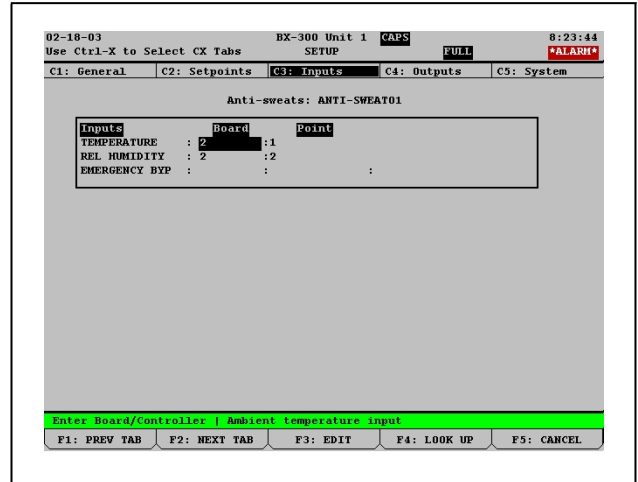

Figure 4-6 - Anti-Sweat Inputs Setup Screen
3. Press **F2** (NEXT TAB) to advance to the Inputs Setup screen (Figure 4-6).